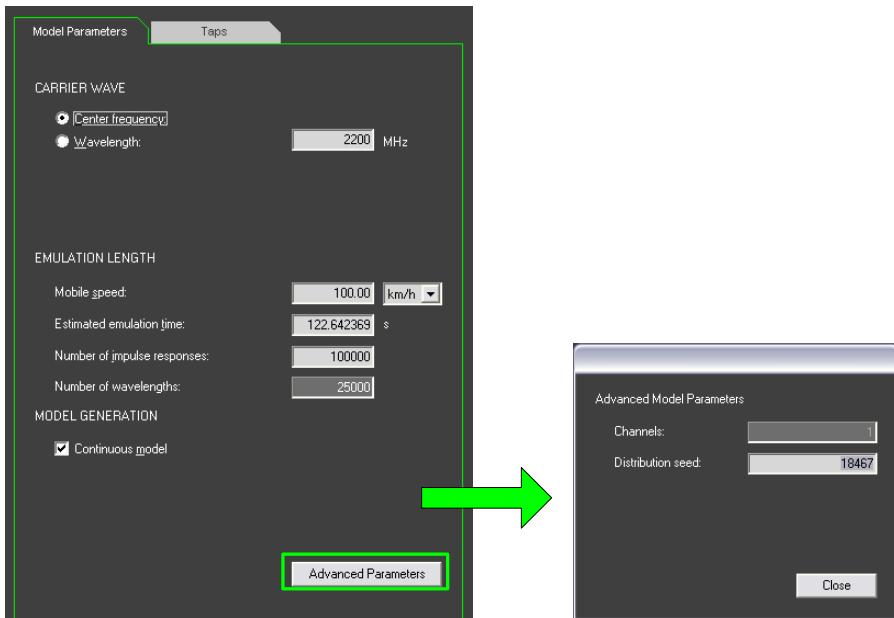

Figure 188 Advanced model parameters
- The PROPSIM enables full repeatability of all emulations. A channel model can be regenerated with the exact same fading channel and Doppler shifts. This is accomplished by using the same distribution seed for random number generation during channel model regeneration. To regenerate a channel model that is uncorrelating with the original one the distribution seed value has to be changed, as shown in Figure 188. If you wish to create multiple, uncorrelating channel model files e.g. for RX/TX diversity testing, based on the exact same parameters, click **Advanced Parameters** in the model parameter tab to open the advanced model parameters dialog. Change the **Distribution seed** field and click **Close**.